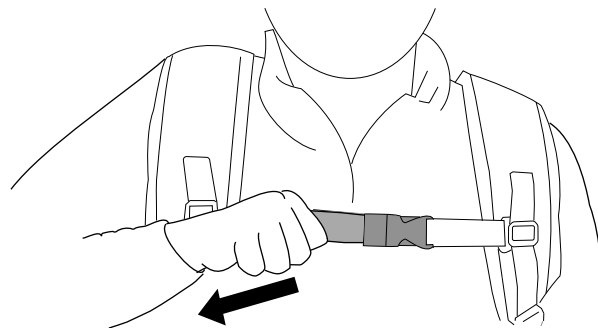

Figure 12
5. Tighten the sternum strap so that it is snug (Figure 12).